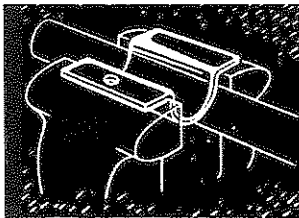

Figure 6
1. Place impeller shaft in vise, using copper shaft holder (Figure 6) to protect the shaft. Re-check the shaft for straightness and freedom from nicks and scratches. Do not use a crooked shaft. Remove with a file all burrs and scratches. If shaft is satisfactory, check for scribe mark that locates the bottom impeller. If scribe mark was not made in disassembling, refer to dimension "B" or "C", pages 5 or 7 for its location in the pump size being assembled.